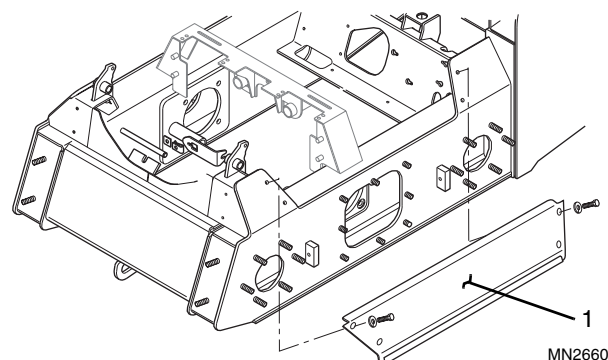

Figure 10-96 Frame Side Cover Installation
27. Install the left (Fig. 10-96, 1) and right (not shown) side covers to the vehicle.